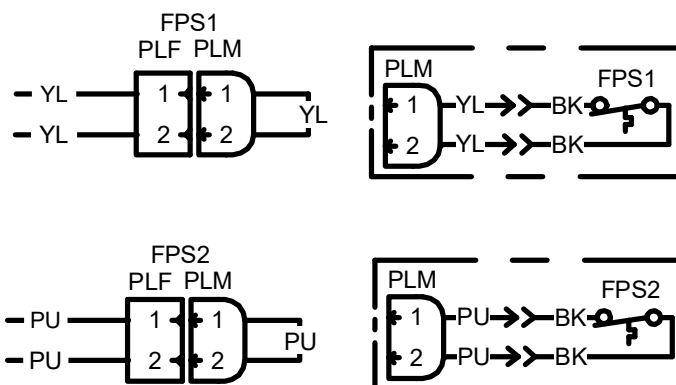

FIGURE 4
4. Remove the 2-pin yellow jumper from the unit and connect the 2-pin yellow plug provided in the Freezestat harness. Repeat for the 2-pin purple jumper with the 2-pin purple plug from the freezestat harness (as shown in Figure 4).